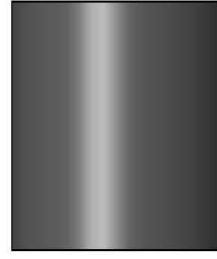

FIGURE 16
- e. Install guide block, washer, and nut onto the stud in the piston shaft; be sure to clean the threads on the stud and be careful not to damage the optic switches. If prover has only a bolt in the piston shaft, it is recommended that it be replaced with a B7 stud and 2H nut. Any prover found using a standard nut in place of the 2H needs to have it replaced with a 2H nut. For Loctite location on the above items, see Figure 16.